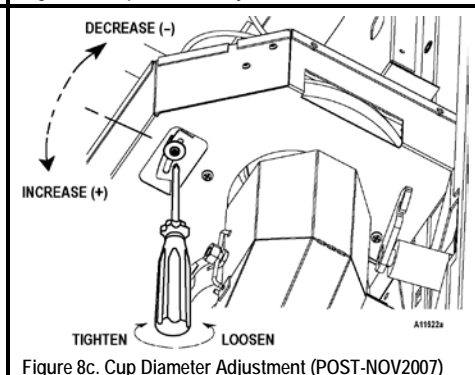

Figure 8c. Cup Diameter Adjustment (POST-NOV2007)
- 3c. When steps 3a and 3b are satisfied then tighten the screw. See Figure 8c.